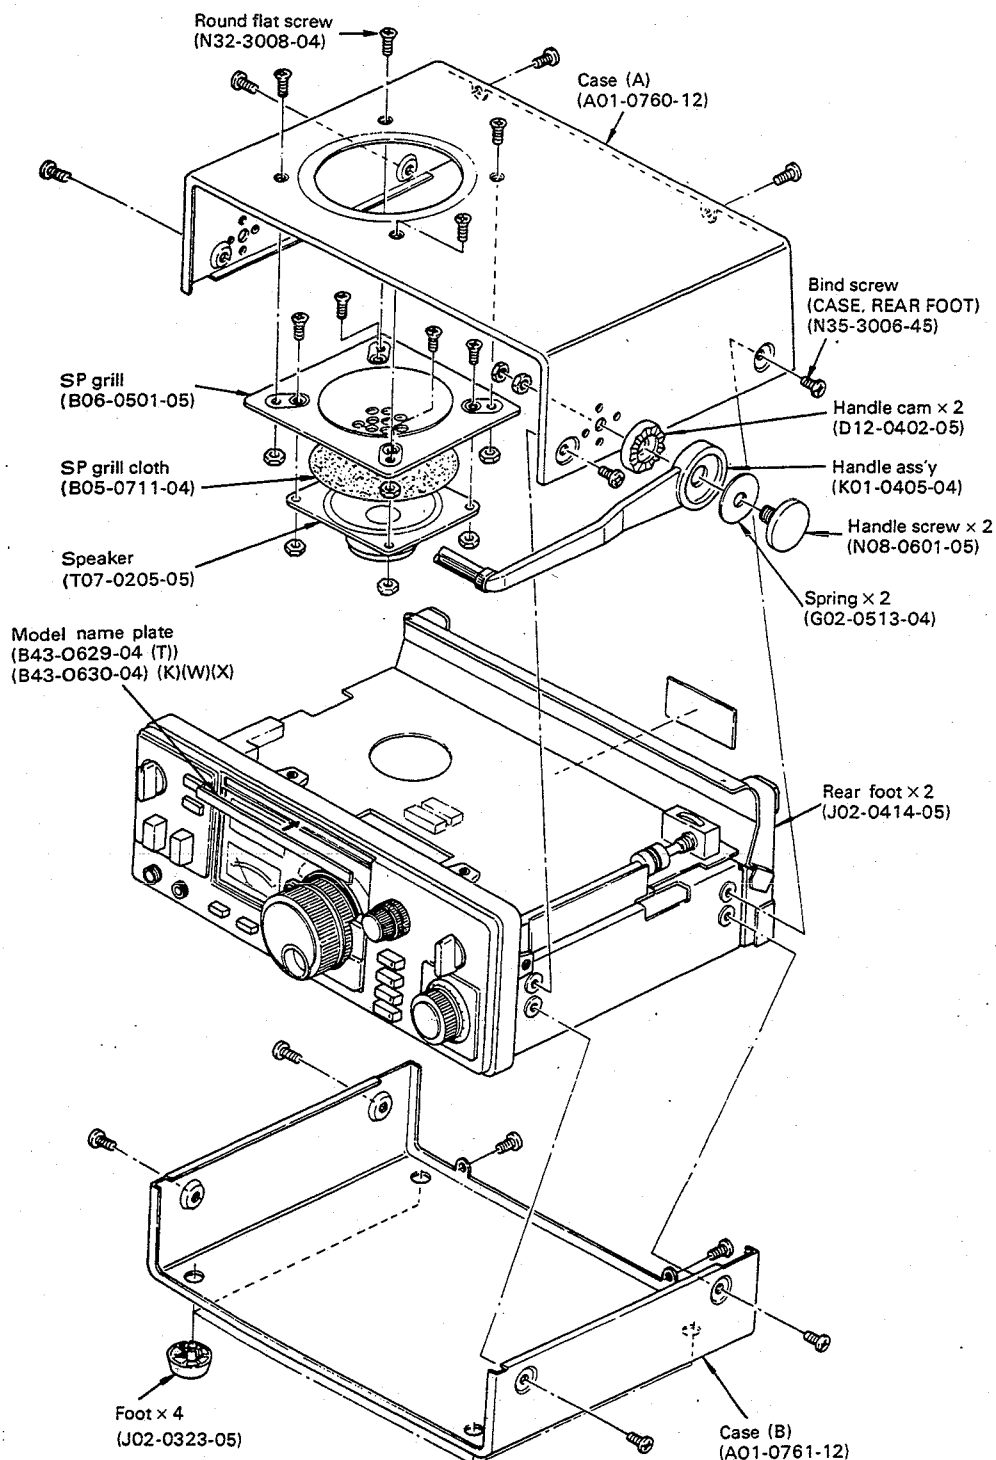

Fig. 3 Case disassembly
1. Remove the upper and lower cases as shown Figure 3.